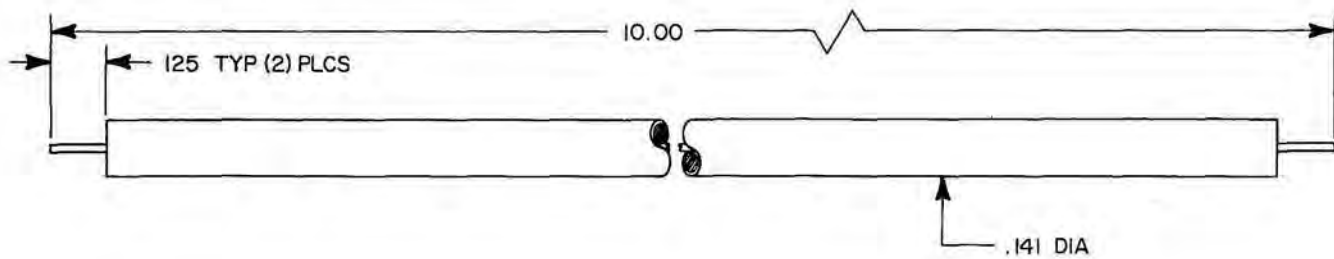

Figure B-4 Coax Cable Preparation
1. Cut and strip a 10.00" piece of .141" diameter semi-rigid coax (5) as shown in Figure B-4.